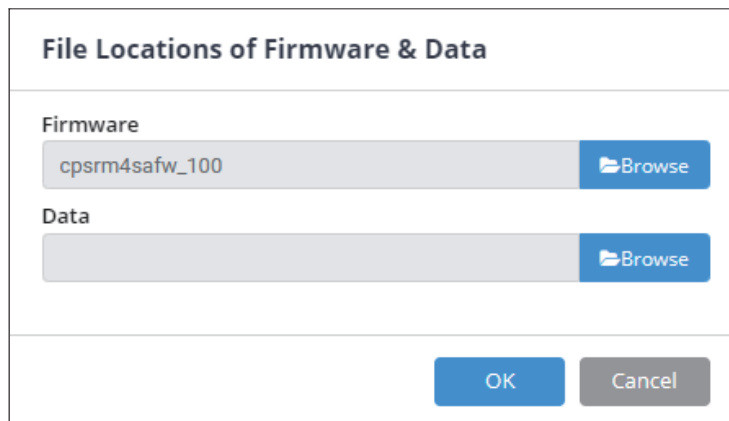

Figure 6. The File Locations of Firmware & Data window.
5. Select the Firmware and click “OK” to implement firmware upgrade, as shown in Figure 6.